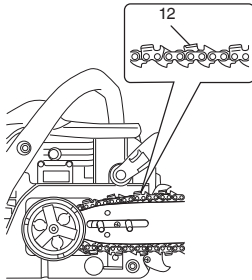

Fig. 5
4. Confirm the direction of saw chain (12) is correct as in the figure, and align the chain on the sprocket. (Fig. 5)